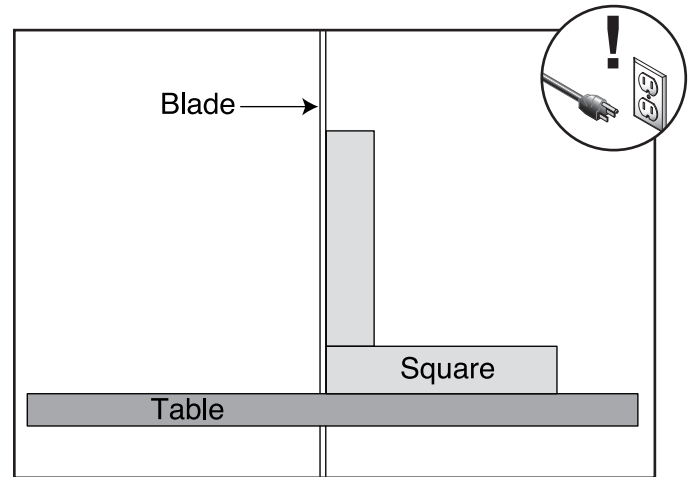

Figure 25. Squaring table to blade.
5. Raise the upper blade guide assembly and place a 6" machinist's square or try-square on the table next to the side of the blade as illustrated in **Figure 25**. Adjust the positive stop bolt to raise or lower the table until the table is 90° to the blade.